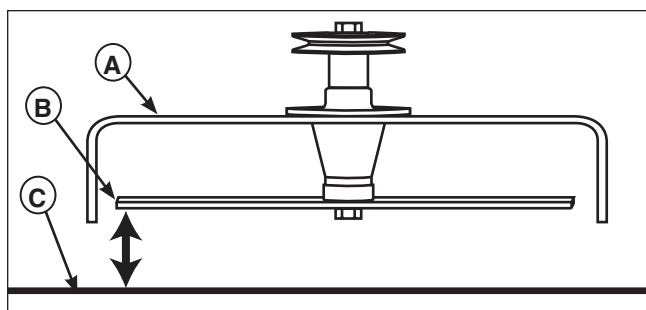

Figure 39. Measure Blade Tips to Ground
7. Measure the distance from the ground to the front tip of the center blade, and from the ground to rear tips of left-hand and right-hand blades (Figures 39 & 41). The front tip of the center blade should be 1/4" (6mm) higher than rear tips of left-hand and right-hand blades. If not, proceed with steps 8 - 11.